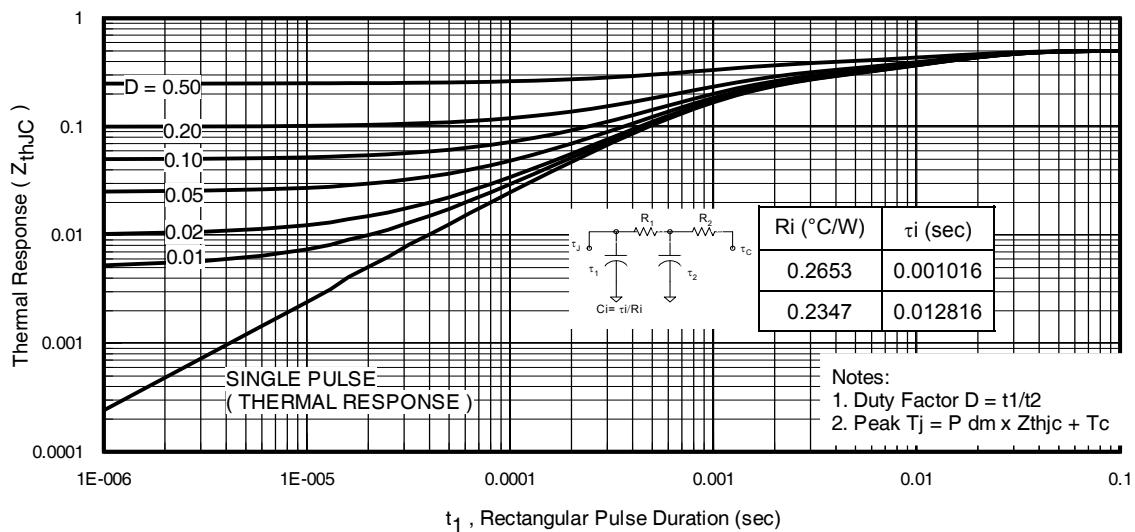
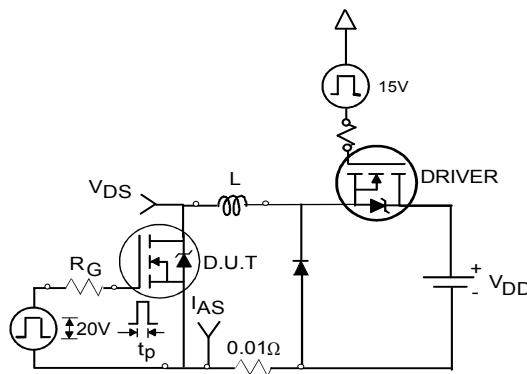

Fig 11. Maximum Effective Transient Thermal Impedance, Junction-to-Case
Fig 12a. Unclamped Inductive Test Circuit
- ② Repetitive rating; pulse width limited by max. junction temperature. (See fig. 11)
- ③ This value determined from sample failure population, starting $T_J = 25^\circ\text{C}$, $L = 0.23\text{mH}$, $R_G = 25\Omega$, $I_{AS} = 75\text{A}$, $V_{GS} = 10\text{V}$.
- ④ Pulse width $\leq 1.0\text{ms}$; duty cycle $\leq 2\%$.
- ⑤ $C_{oss\ eff.}$ is a fixed capacitance that gives the same charging time as C_{oss} while V_{DS} is rising from 0 to 80% V_{DSS} .
- ⑥ Limited by $T_{J\max}$, see Fig.12a, 12b, 15, 16 for typical repetitive avalanche performance.
- ⑦ This is only applied to TO-220AB package.
- ⑧ This is applied to D²Pak When mounted on 1" square PCB (FR-4 or G-10 Material). For recommended footprint and soldering techniques refer to application note #AN-994
- ⑨ R_0 is measured at T_J of approximately 90°C
- ⑩ TO-220 device will have an R_{th} value of 0.45°C/W .
3. Equation below based on circuit and waveforms shown in Figures 12a, 12b.